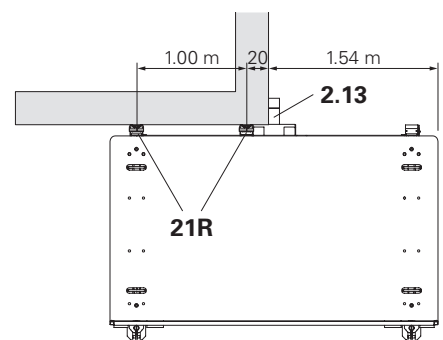

Fig. A4.04a
- Mounting heads (21) in position (21R). (Fig. A4.04a)